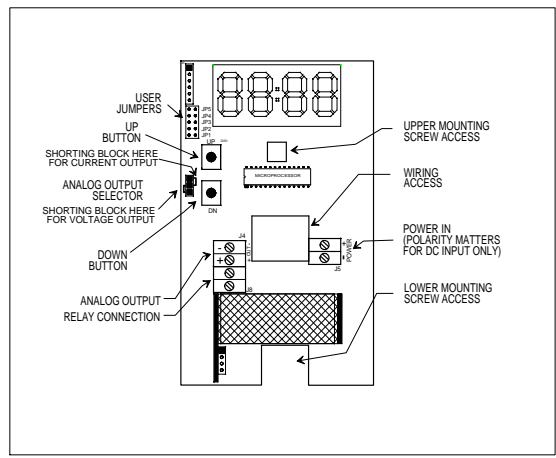

Figure 2: Model 310e Component Locations
The locations of controls and terminals on the main circuit board are shown in the Figure 2 on page 4.
The Model 310e will operate from an AC or DC input voltage between the values called out in the specifications on page 2. The power supply leads are connected to the two-terminal power connector shown in Figure 2.
When operating from DC power, the polarity of the power leads must be as shown in Figure 2. Reversed polarity connection will not damage the unit, but will make it inoperable until the connection is reversed.
The Model 310e provides either a 0 - 10 volt or a 4 - 20 mA current loop output at the two terminals of the analog output connector shown in Figure 2.
The type of analog output is determined by the setting of the analog output selector shown in Figure 2.
Note whether the shorting block at jumper JP5 is covering both pins or only a single pin, then borrow the shorting block and slide it over the two pins of jumper JP4 (see Figure 2). The display (if present) will show 'SEL'
1. **Note whether the shorting block at jumper JP5 is covering both pins or only a single pin**, then borrow the shorting block and slide it over the two pins of jumper JP4 (see Figure 2 on page 4). The display (if present) will show 'SEL'.
4. **Note whether the shorting block at jumper JP5 is covering both pins or only a single pin**, then borrow the shorting block and slide it over the two pins of jumper JP2 (see Figure 2 on page 4). Use the 'UP' and 'DOWN' buttons to change the concentration to the value just calculated.
2. If there is no display on the unit being calibrated, connect a current or volt meter to the analog output terminals. Check the setting of the analog output selector (see Figure 2 on page 4) to determine whether the unit is set for voltage or current output.
- borrow the shorting block and slide it over both pins of jumper JP2 (see Figure 2 on page 4).
5. Use the 'UP' and 'DOWN' buttons (see Figure 2 on page 4) to adjust the reading.
The setpoint value is adjusted by closing jumper JP3 (see Figure 2 on page 4). If the display is present when JP3 is closed it will show the current high limit setpoint in ppm CO₂.